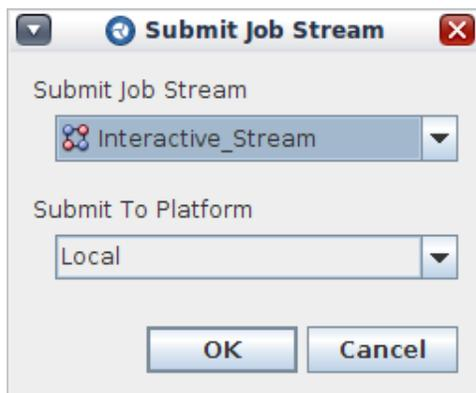

Figure 5.36. Submit Job Stream Dialog
- Select "**Submit Job...**" from the **Tools** menu. This opens the dialog shown in Figure 5.36, "**Submit Job Stream Dialog**". This dialog allows the user to select both the stream to submit and the platform to which it will be submitted. Pressing the **OK** button submits the stream.